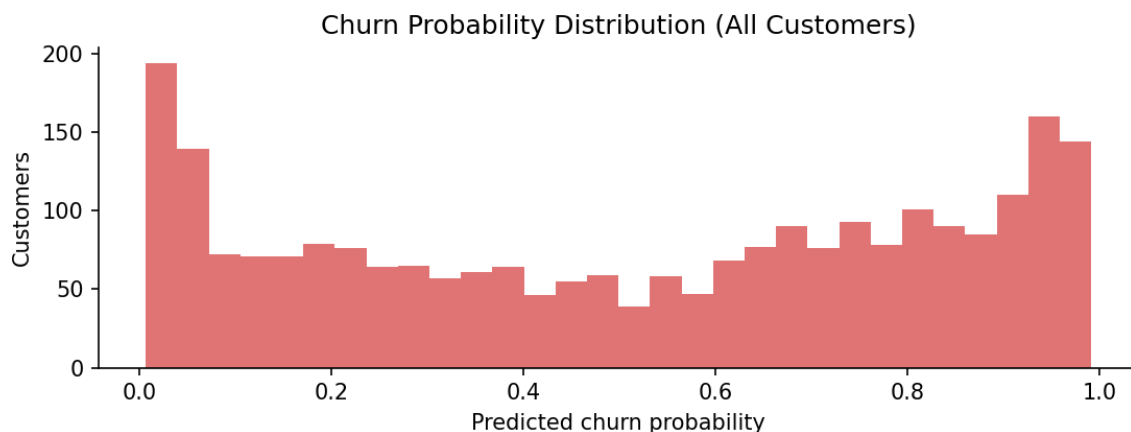

Figure 3 — Predicted churn probability across the customer base.
- Figure 3 — Churn probability distribution